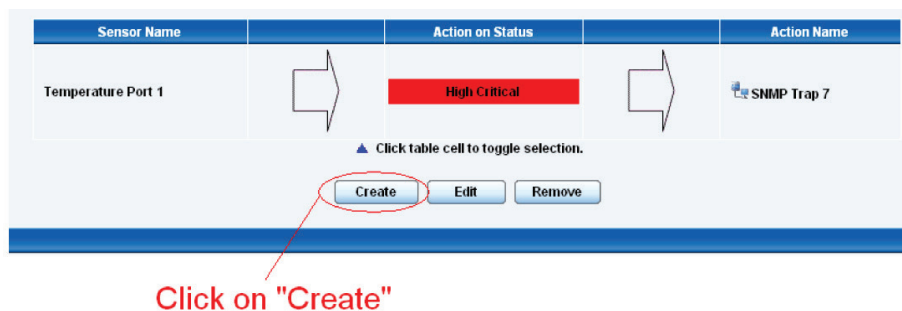

Figure 4-18. Create notification link
10. Click "Finish." You will now be taken back to screen shown in Figure 4-18.